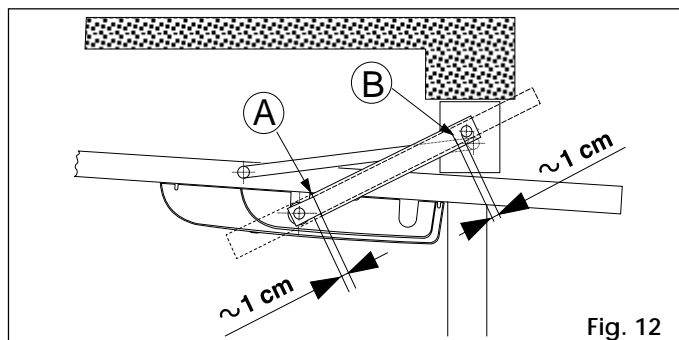

Fig. 12
• **straight arms (Fig. 12)**
Place the telescopic arm in position as shown in figure 12.